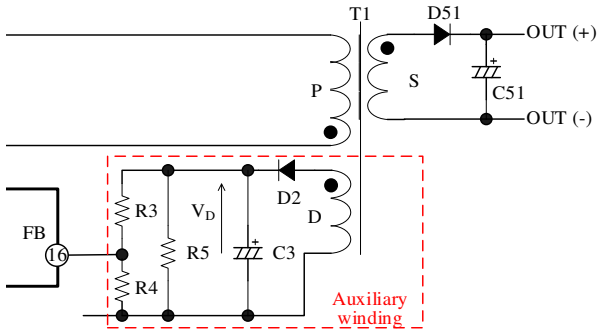

Figure 9-7. Detection by Auxiliary Winding
Without an optocoupler, the secondary output voltage is controlled by detecting the voltage coupled by the secondary output and the transformer in the primary side, using the auxiliary winding, D, as shown in Figure 9-7. The relation between the smoothing voltage,  $V_D$ , and the secondary output voltage,  $V_{OUT}$ , is determined by the ratio of the auxiliary winding turns,  $N_D$ , and the secondary winding turns,  $N_S$ , as shown in Equation (4).